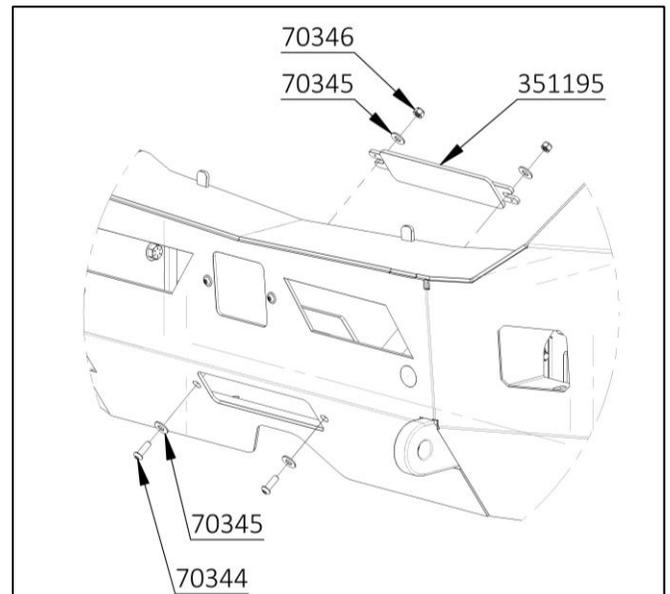

Figure 16: Fairlead Install (5/16" Fasteners)
22.  If not installing a winch, install the FAIRLEAD COVER using the 5/16-18 X 1 BHCS, washers, and locknuts. **See Figure 16.**